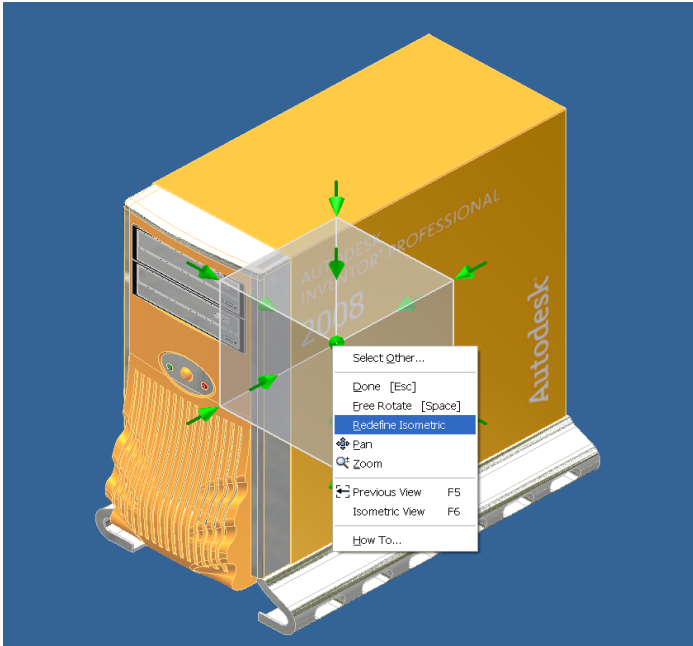

Figure 4
- Set your desired Isometric View by selecting the corresponding green arrow. Once you happy with the new default isometric orientation, Right Click on green arrow and select 'Redefine Isometric' (Figure 4).